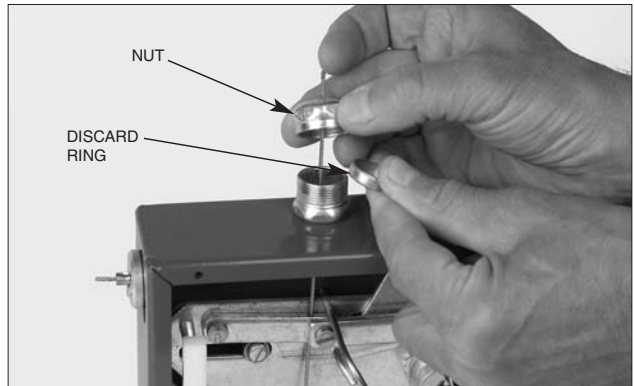

Figure 4-40.
3. Unscrew the nut from the EMT conduit connector and remove the compression ring. Discard ring. See **Figure 4-40**.